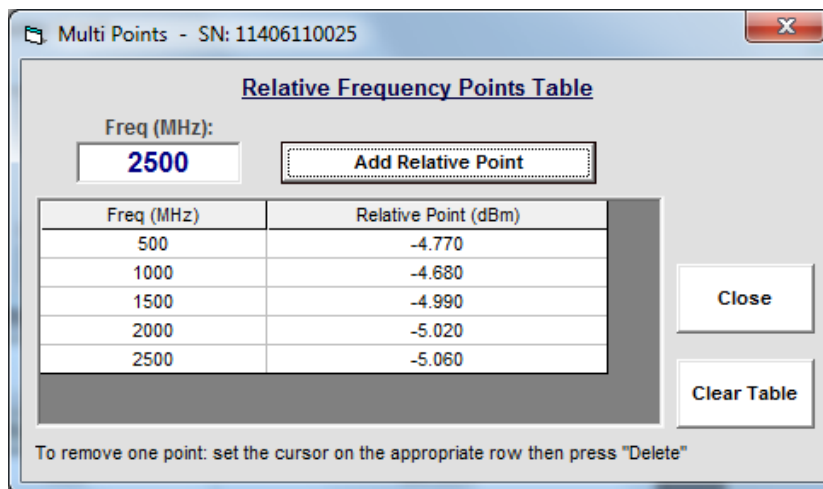

Figure 3.5.1: Relative Frequency Points Table
3.5.1 **Checking the 'Rel. Table' check box** will open the relative frequency points table shown in **Fig 3.5.1**. This table allows specifying multiple points for relative measurements. To add a point to the table enter the relevant frequency and click on 'Add Relative Point' – the current power reading will be added to the table.